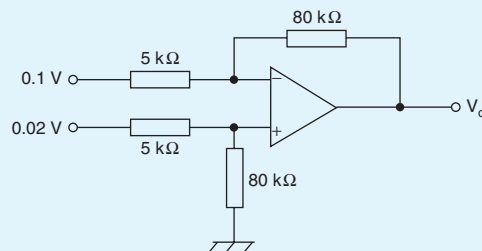

Figure 19.29
9. In the differential amplifier shown in Fig. 19.29, the output voltage, V_o , is: